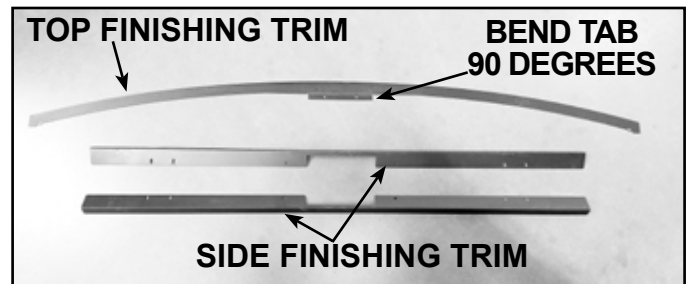

Figure 8. Finishing Trim
11. Bend tab on the top finishing trim 90 degrees. Attach trim to the top lip of the appliance with two 1/2 inch self-tapping screws. Install two additional 1/2 inch self-tapping screws where the top finishing template was held in place, shown in Figure 5. Apply a bead of silicone sealant (300 °F minimum continuous exposure rating) on the top arch finishing trim and secure in place. See Figure 8.